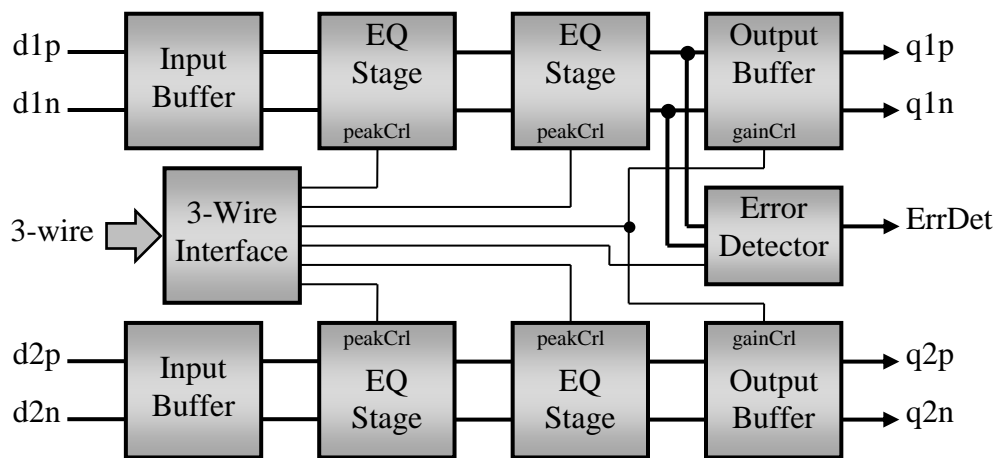

Fig. 1. Functional Block Diagram
The ASNT6152-KMM shown in Fig. 1 is an adaptive continuous-time linear equalizer (CTLE) with two independently controlled analog data channels, each channel with two identical and independently controlled equalization stages. The DC-gain in the equalization stages is automatically adjusted to $0dB$. The DC-gain of the Output Buffer (OB) can be externally adjusted.